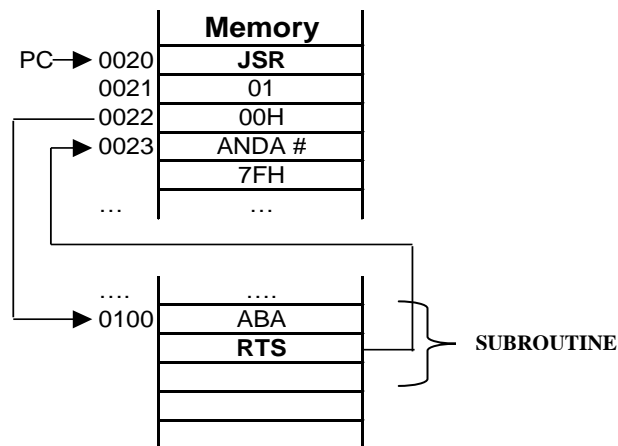

Figure 6.8 - A subroutine execution process
In figure 6.8, the execution of a jump to subroutine instruction (**JSR**) and return from subroutine instruction (**RTS**) are given. After **JSR 0100H** instruction is executed, PC is set to the defined address and execution continues with the **ABA** instruction. The program returns from this subroutine after the **RTS** instruction is executed. Program counter (PC) is set to 0023H and the program execution continues with **ANDA #7FH** instruction.